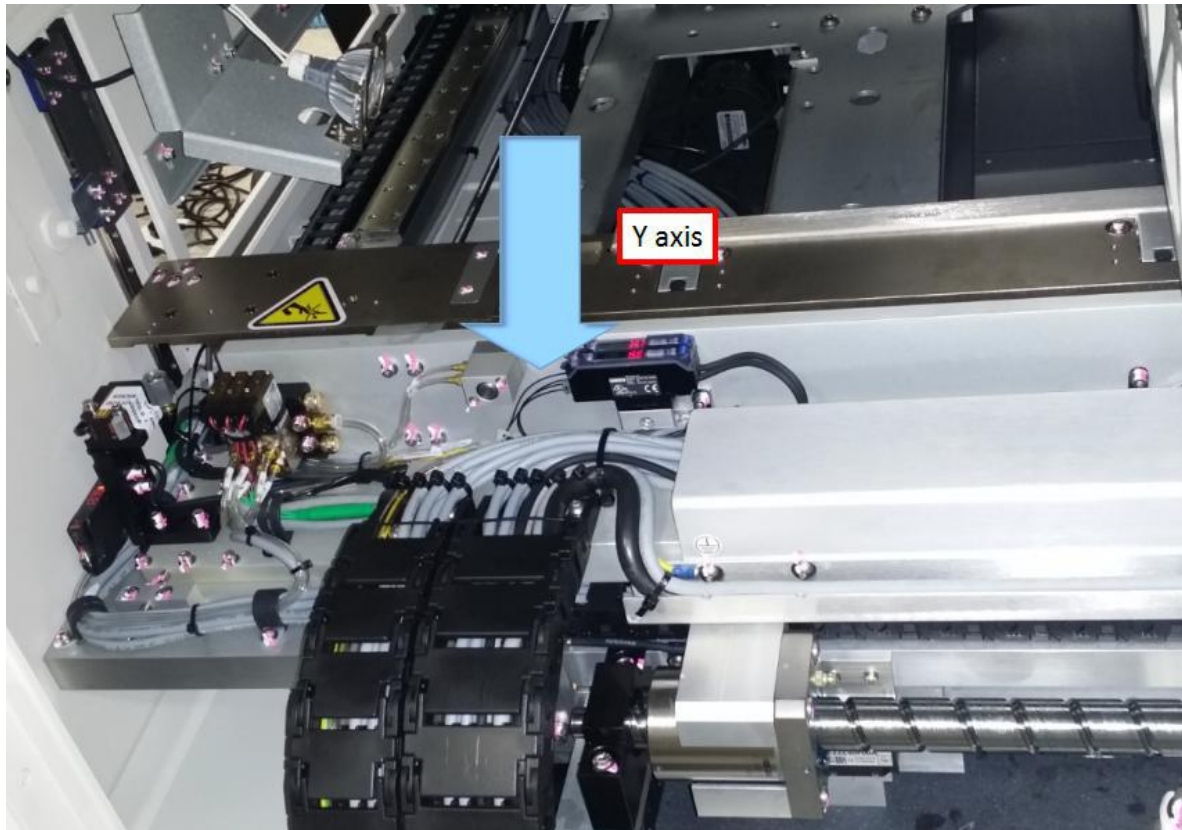

Figure 3 Y axis Minimum Hard Stop (V810 Std)
8. Move Y axis stage towards Front Side until the Y axis stage is collide with Y axis Minimum hard stop as Figure 3.